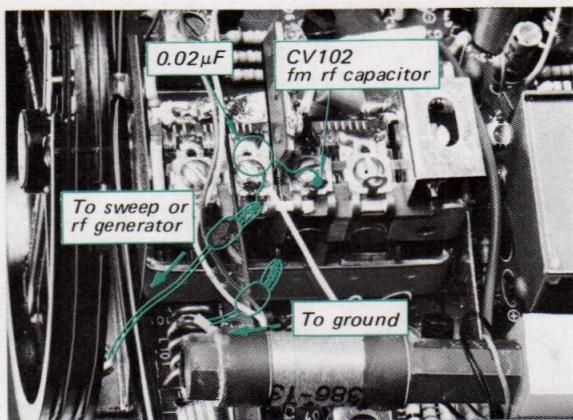

Fig. 3-4. 10.7 MHz signal injection
2. Connect the output cable of the sweep generator across CV102 on tuner and MPX board. Use alligator clips and make the connection through a $0.02\mu F$ coupling capacitor as shown in Fig. 3-4.